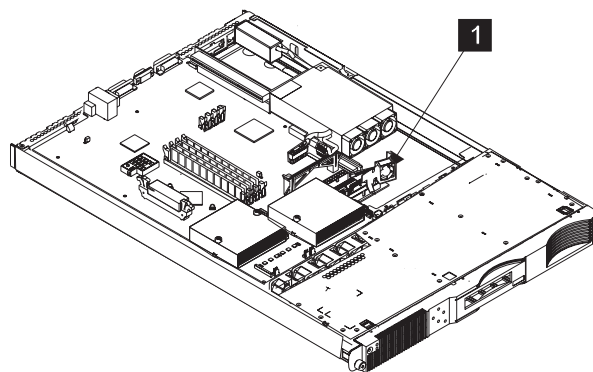

Figure 86. Removing a SAN Volume Controller 2145-4F2 disk drive fan
5. Remove the entire fan assembly **1** by sliding the right-hand side of the disk drive fan forward. Then, pull the assembly away from the clip. See Figure 86.